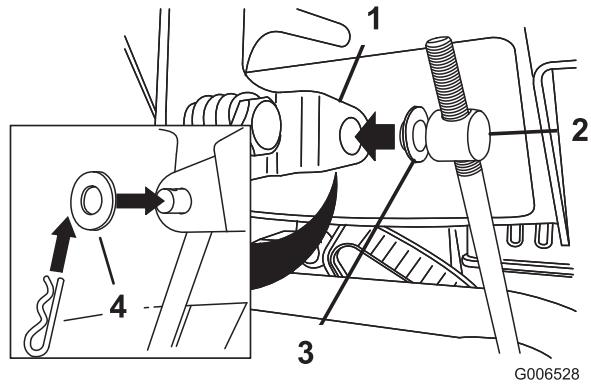

Figure 5
3. Place a flat washer on the trunnion (Figure 5).
- Pull up on the speed control rod and insert the trunnion into the hole in the speed selector lever (Figure 5).
- B. Disconnect the trunnion from the speed selector lever (Figure 5).
- C. Turn the trunnion upward (counterclockwise) on the speed control rod (Figure 5).
- D. Connect the trunnion to the speed selector lever (Figure 5).